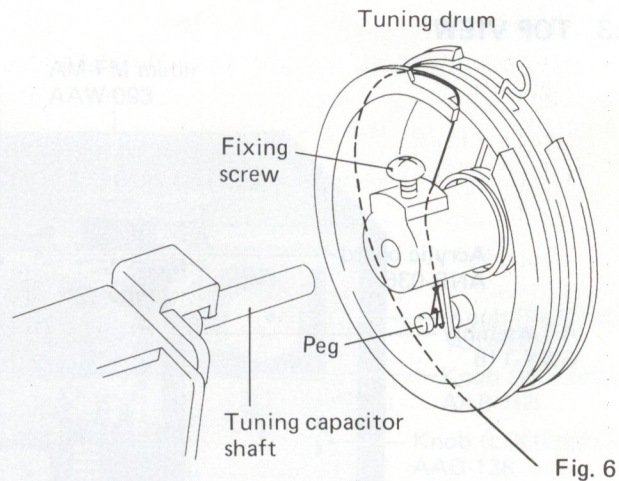

Fig. 6
2. Remove the tuning drum from the tuning capacitor shaft (Fig. 6).
3. Tie one end of the string to the peg on the inside of the tuning drum (Fig. 6).